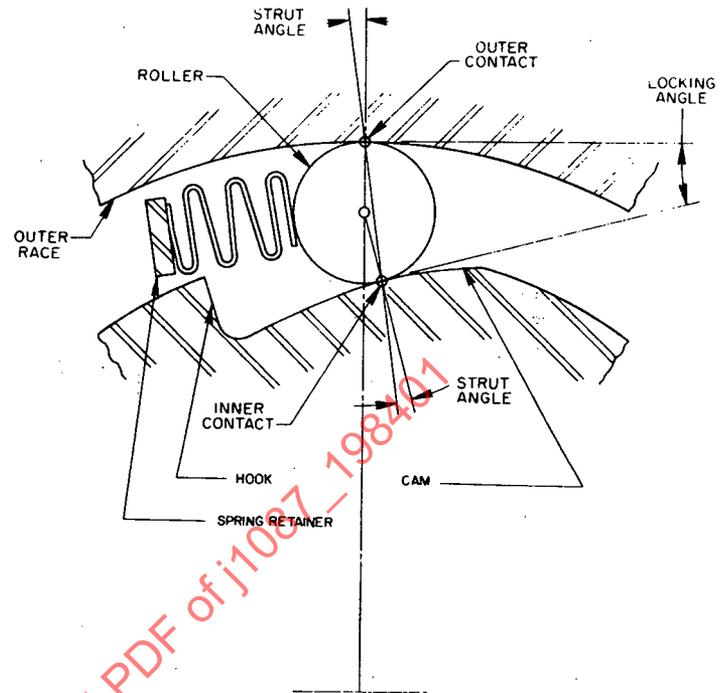

FIG. 2—INNER CAM TYPE ROLLER ONE-WAY CLUTCH DIAGRAM
3.2.2 **INNER CAM CLUTCH**—A roller clutch which has the cam profile surfaces on the inner element. (See Fig. 2.)